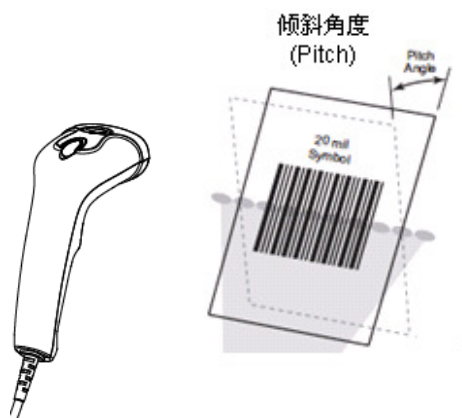

Fig. 1-7
- ◇ Pitch : $\pm 60^\circ$, 0° Roll and 0° Skew (Fig. 1-7)